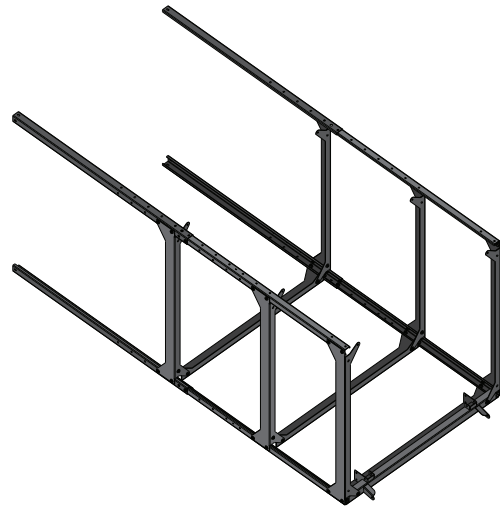

FIG. 5a
Attach the two remaining Leg Assemblies to each end of the previously installed Stand Braces (C) as shown in [FIG. 5a]. Ensure that all Leg Assemblies are attached in matching positions.